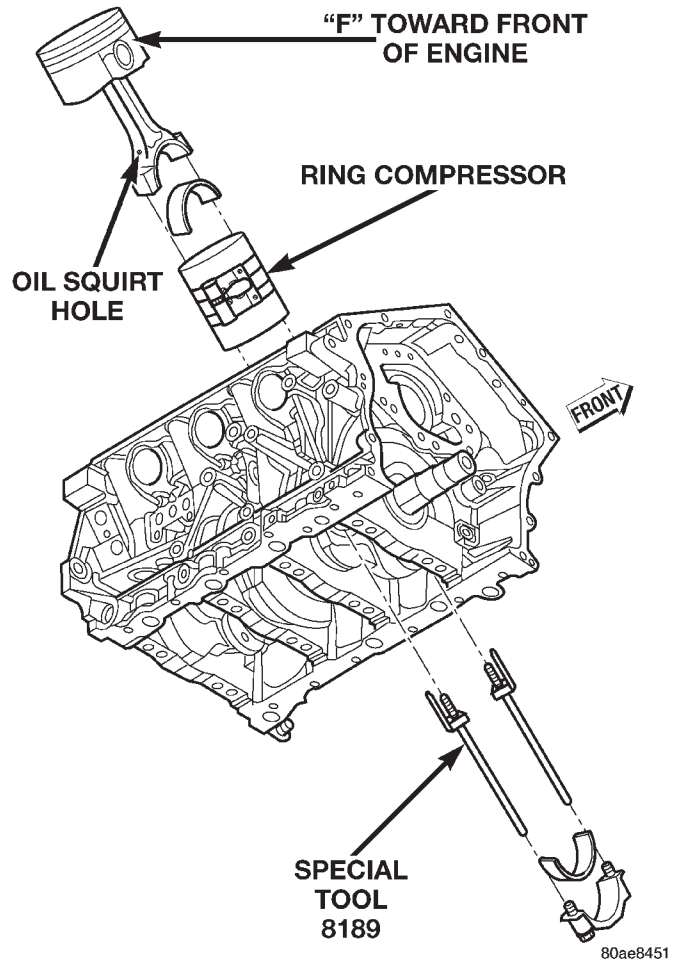

Fig. 84 Piston and Connecting Rod—Installation
(7) Rotate crankshaft so that the connecting rod journal is on the center of the cylinder bore. Insert rod and piston into cylinder bore and guide rod over the crankshaft journal (Fig. 84).